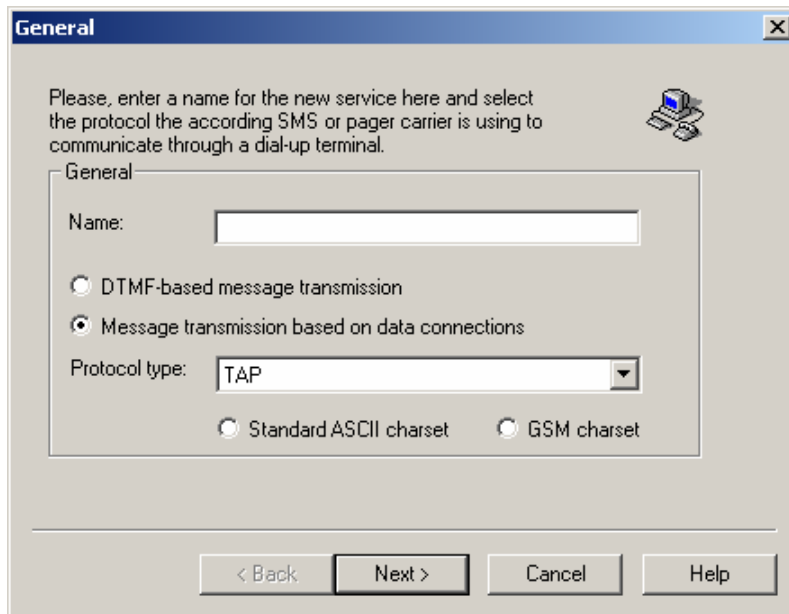

Figure A.9. Configuring a New TAP Service: General Tab
3. On the **General** tab, shown in **Figure A.9**, configure the following parameters: